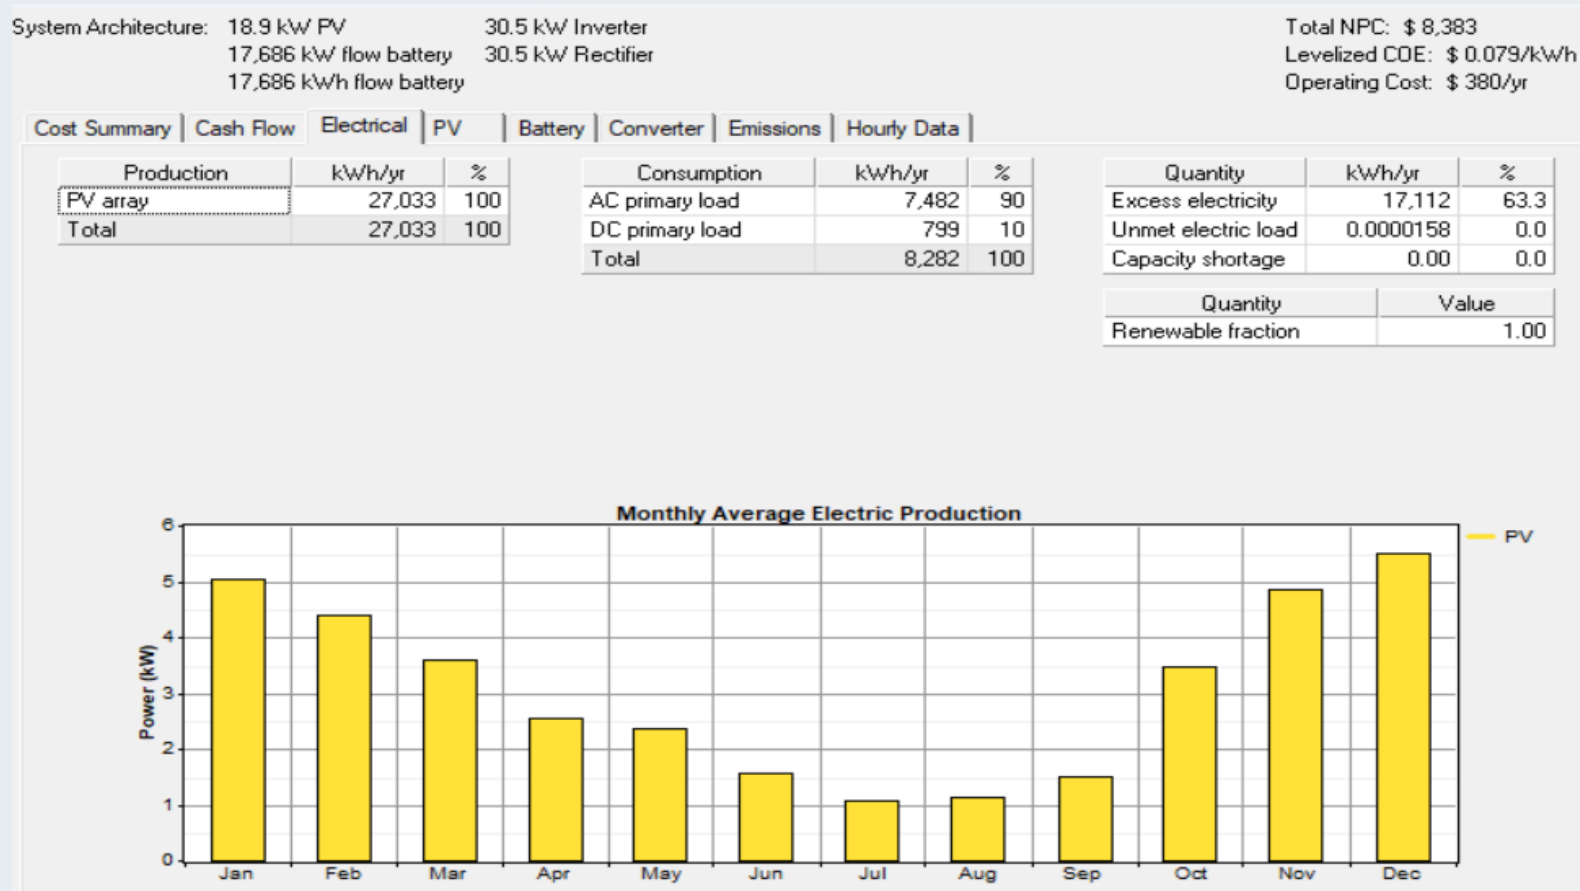

Figure 12. Monthly Average Electricity Production
- The monthly average electricity production is presented in Fig.12